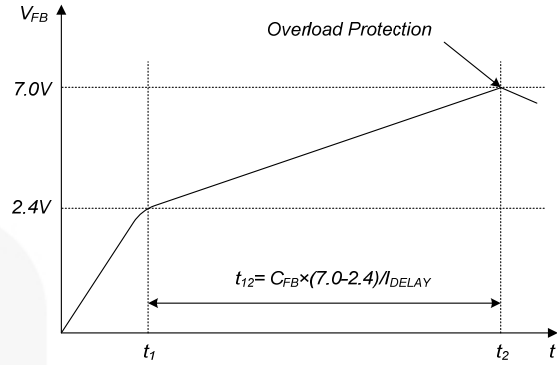

Figure 20. Overload Protection
4.1 Overload Protection (OLP): Overload is defined as the load current exceeding its normal level due to an unexpected abnormal event. In this situation, the protection circuit should trigger to protect the SMPS. However, even when the SMPS is in normal operation, the overload protection circuit can be triggered during the load transition. To avoid this undesired operation, the overload protection circuit is designed to trigger only after a specified time to determine whether it is a transient situation or a true overload situation. Because of the pulse-by-pulse current limit capability, the maximum peak current through the SenseFET is limited and, therefore, the maximum input power is restricted with a given input voltage. If the output consumes more than this maximum power, the output voltage (V_{OUT}) decreases below the set voltage. This reduces the current through the opto-coupler LED, which also reduces the feedback voltage (V_{FB}). If V_{FB} exceeds 2.4V, D1 is blocked and the 2.0 μ A current source starts to charge V_{FB} slowly up. In this condition, V_{FB} continues increasing until it reaches 7.0V, when the switching operation is terminated, as shown in Figure 20. The delay for shutdown is the time required to charge CFB from 2.4V to 7.0V with 2.0 μ A. This protection is implemented in Auto-Restart Mode.